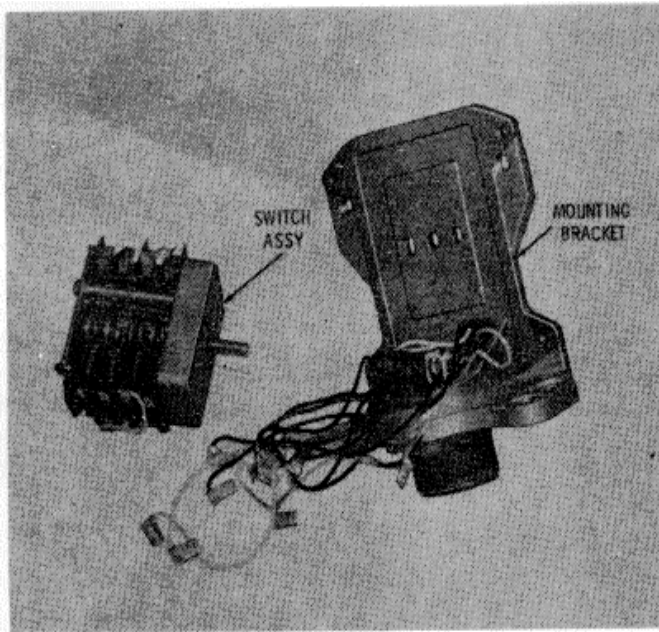

Figure 15-111. Switch Assembly Removed from Mounting Bracket
5. Install the switch assembly onto the mounting bracket (Figure 15-111). Position the switch assembly on the mounting bracket so the switch numbers (1 through 8) are not inverted. Retain the assembly with two 6-32 x 3/4 inch screws 21 (B, Foldout 12) and lockwashers 22. The screw holes in the switch assembly should be approximately midway in the elongated holes in the mounting bracket when the screws are tightened.